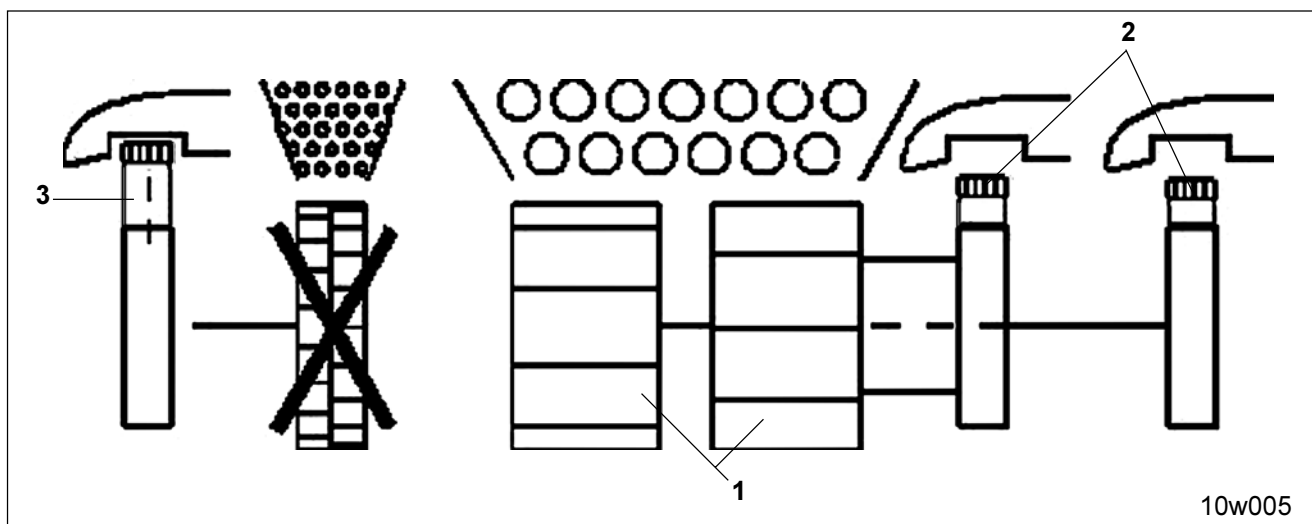

Fig. 10.5
For sowing with both metering wheels (Fig. 10.5/1)
- drive in knurled bolts (Fig. 10.5/2) of the main metering wheels
- Drive out the knurled bolt (Fig. 10.5/3) of the fine seed metering wheel.